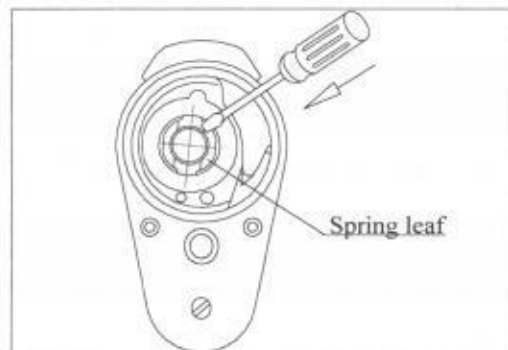

Fig 7
- Flattening the hem of the spring leaf with screwdriver to reduce the bobbin thread tension.(Fig 7)